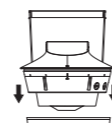
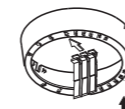

FIG. 17
FIG. 18
4.2.2 Fixing lens shield: Take off the decorative frame of the detector head and insert the lens shield into the slot of decorative frame as following illustration (See FIG. 17 & FIG. 18). Then put the decorative frame back to the right position of the detector head.